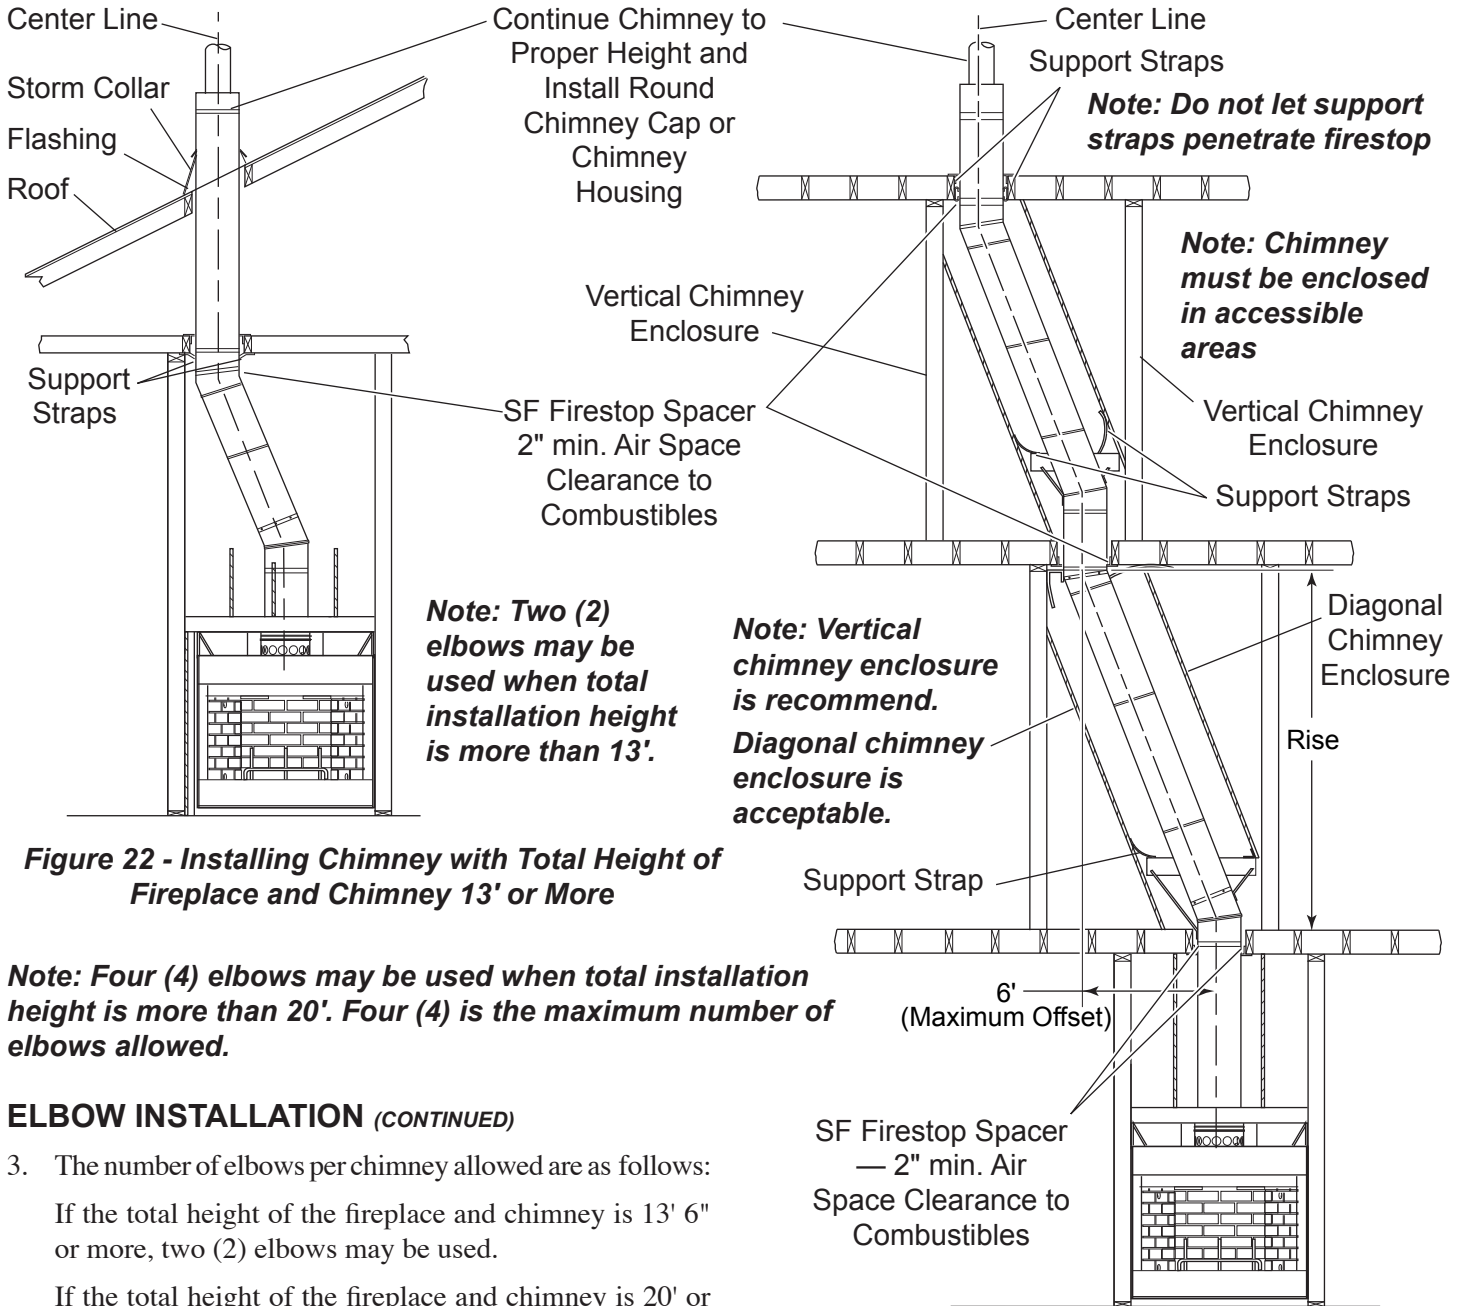

Figure 22 - Installing Chimney with Total Height of Fireplace and Chimney 13' or More
- If the total height of the fireplace and chimney is 13' 6" or more, two (2) elbows may be used.
- If the total height of the fireplace and chimney is 20' or more, four (4) elbows may be used.
4. Inclined portions of chimney is often used as storage. Enclose the inclined portions of chimney that pass through living spaces to avoid contact with and possible damage to chimney. Maintain minimum air space of 2" between chimney and enclosing. *See Figures 22 and 23.*